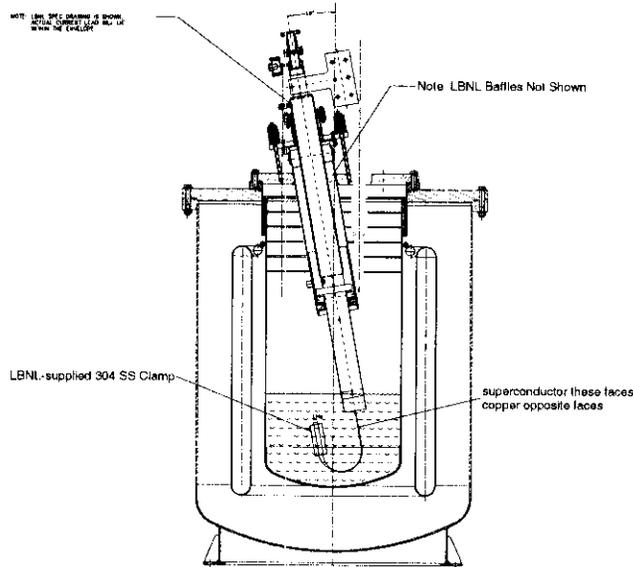

Figure 4.3a Side View of Lead in Cryostat with the LTS cables connected.
- 4.3** Make connection to LTS pigtailed. The joint is a mechanical connection with a stainless steel clamp block (supplied by LBNL) and indium foil between the cables to ensure good electrical contact. Torque each of the clamp block fasteners to 10 ft.-lbf. Figure 4.3a shows a rendition of